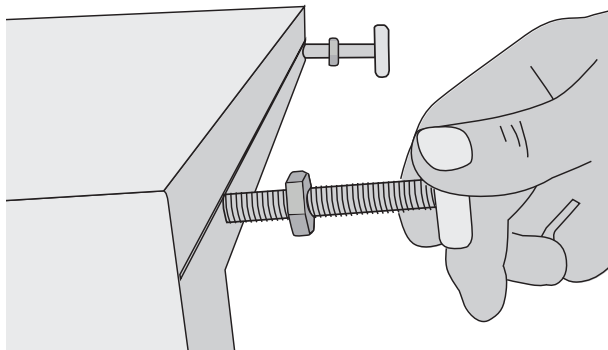

Figure 5
**2** Install the leveling feet one at a time. (See Figure 5)